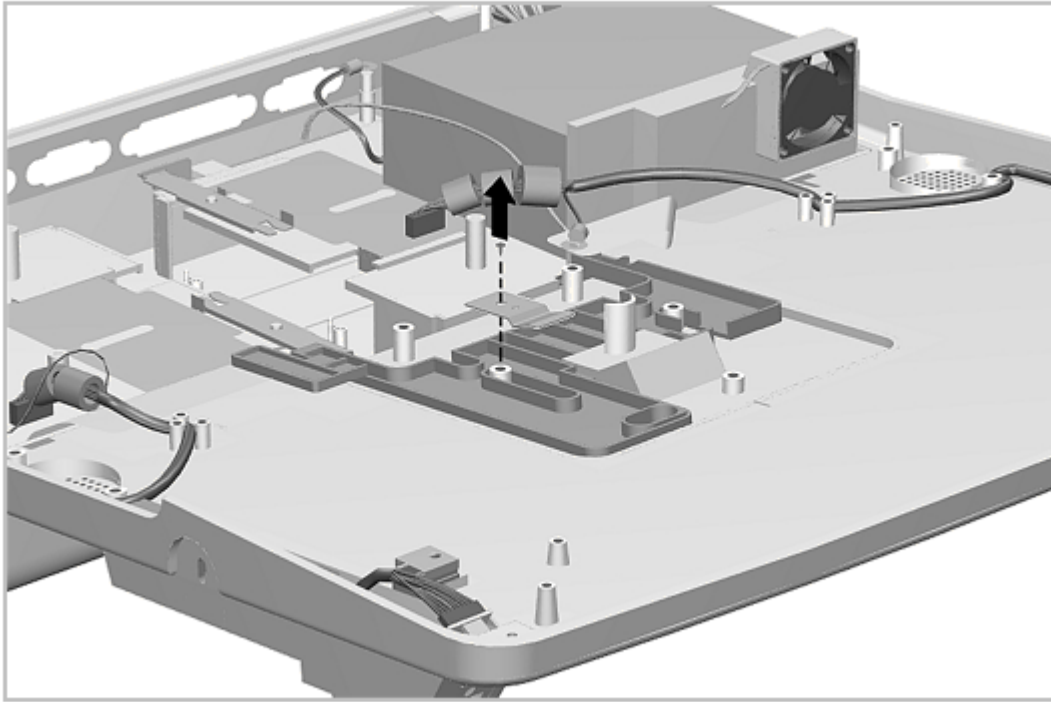

Figure 7-36. Removing the Puller Plate Spring
6. Remove the screw from the spring and lift the spring out (Figure 7-36).